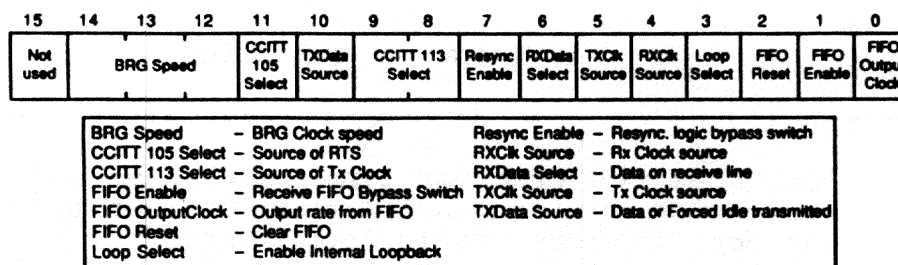

Figure 7-21: The SSL's Channel Control Register
7.4.3.1 Channel Control Registers (DBCR) - The TMS processor uses these registers to set up the behavior of a particular channel. Figure 7-21 shows the format of the register, and Table 7-20 explains the meaning and use of each field.